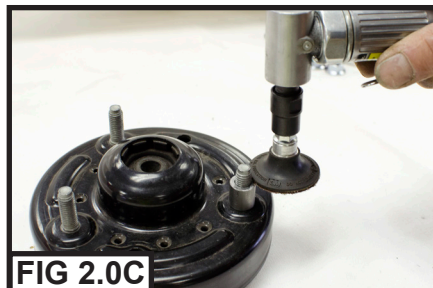

FIG 2.0C
**Height Trim Gauge Tube.** (*Remove the Height Trim Gauge Tube before continuing*) (FIG 2.0C)